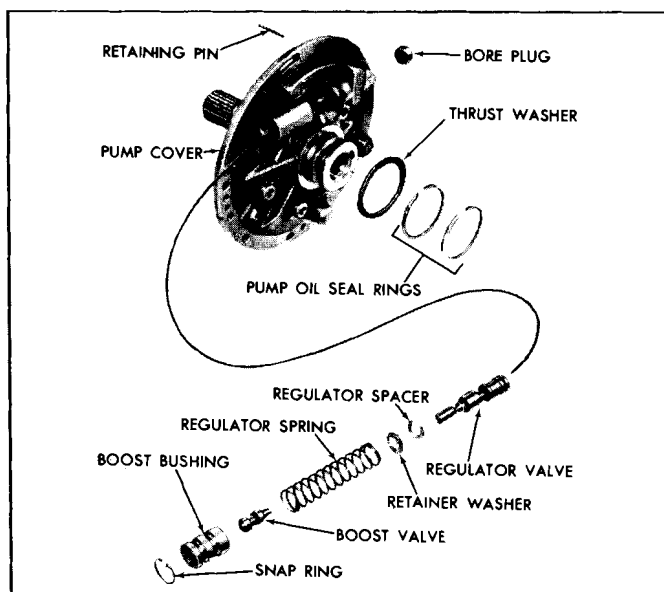

Fig. 7E-106 Exploded View of Pump Cover
8. Remove hook-type oil seal rings from pump cover (Fig. 7E-106).